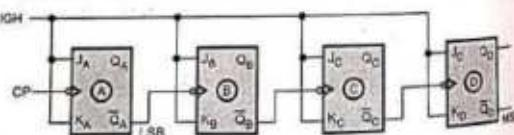

Fig. 5.9.9 4-bit asynchronous down counter
- The Fig. 5.9.9 shows the 4-bit asynchronous down counter using JK flip-flops.